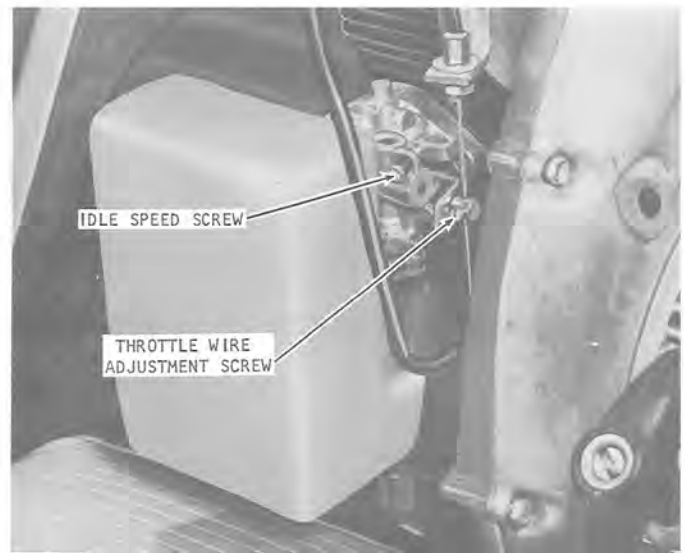
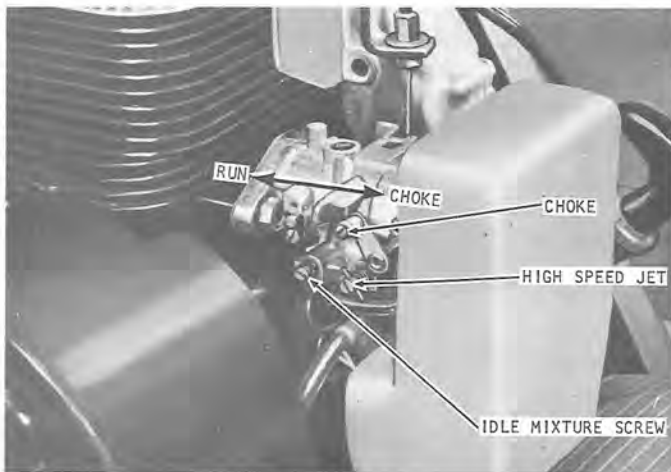

Figure 17
Figure 16
IT IS IMPORTANT NOT TO FORCE ADJUSTMENTS INTO SEATS. The carburetor used is a Tillotson Model HR Carburetor. For best results the engine should be warm when final carburetor adjustments are made. Figure 16 shows the left side of the carburetor and figure 17 shows the right side.
2. STARTING A WARM ENGINE - Start engine with the choke open. The choke is shown in figure 16.
then open needle (turn out 1/4 turn). Turn in the idle mixture screw all the way (DO NOT FORCE) and then open one full turn. **IMPORTANT: MAKE NO OTHER ADJUSTMENTS TO IDLE MIXTURE SCREW.** This adjustment controls the mixture at idling speeds. A lean mixture will cause poor acceleration. Adjust the idle speed screw shown in figure 17. Keep idle speed slower than clutch engaging speed (approximately 1750 to 2000 RPM).
Figure 17 also shows a throttle wire adjustment collar screw. Remove carburetor air cleaner and depress the throttle control. If this does not open the throttle plate completely, loosen throttle wire adjustment screw and re-adjust to open throttle.